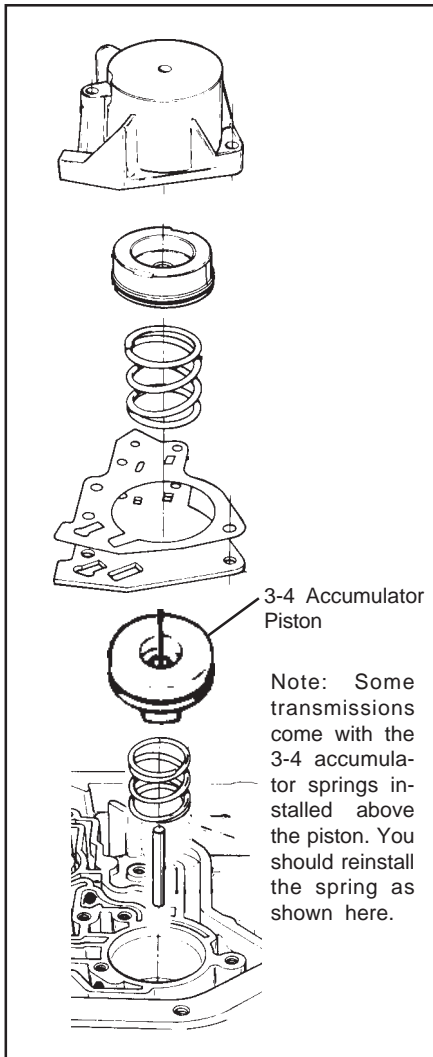

Fig. 9. Heavy Duty Level Accumulator Assembly Order.
STEP 11. Heavy Duty Level Only; Insert the 3-4 accumulator pin in the case. Over the pin place the spring and then the accumulator piston. Use a dab of grease or petroleum jelly to hold components in place (See Fig. 9.)
separator plate and gaskets to properly line up before attempting to torque them. **STEP 14. Heavy Duty Level Only;** Install gasket, piston, spring and 1-2 accumulator housing in reverse order of removal. Tighten bolts finger tight (**See Fig. 9.**)